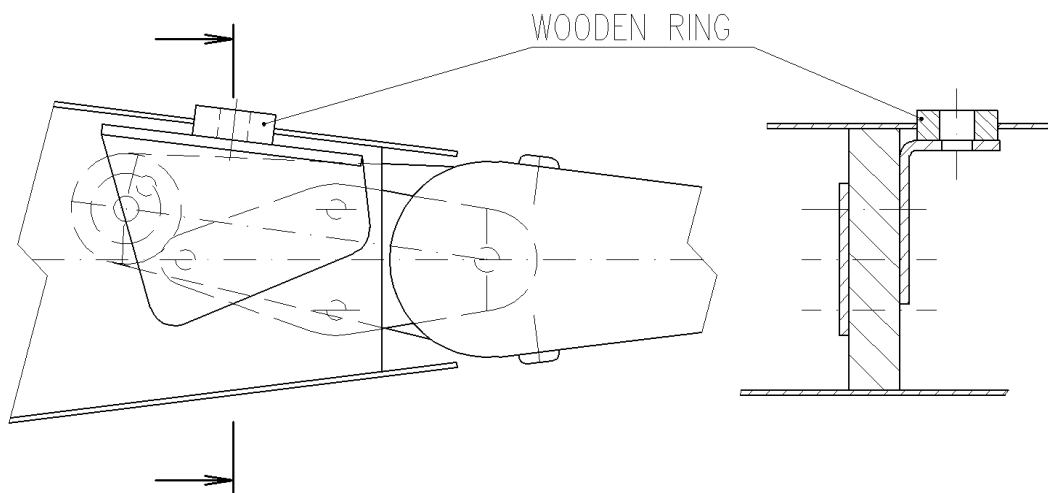
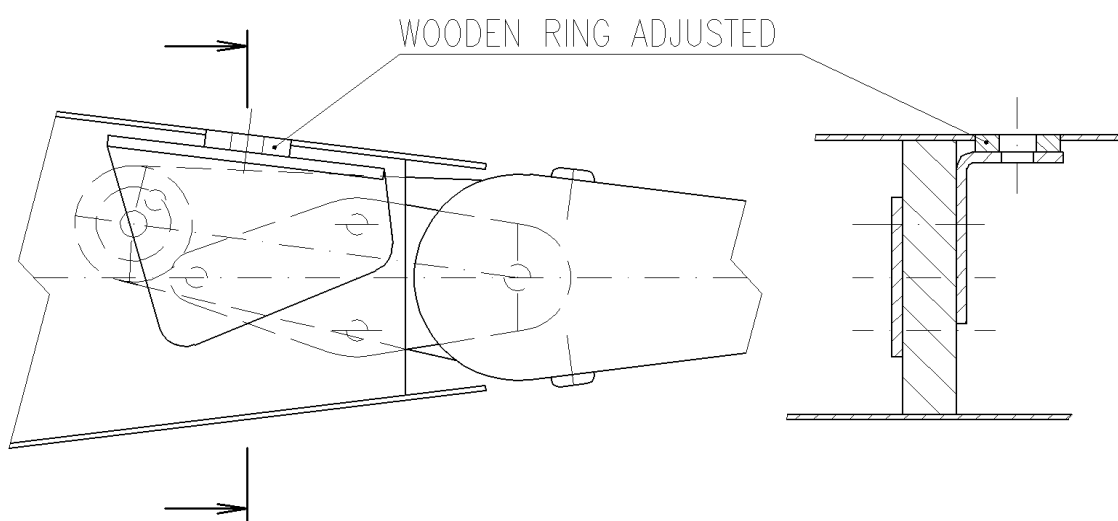

Fig. 2
Fig. 3
3. Put the wooden ring th. 6 mm into the hole d 16 for the PA spacer, and grind off the overlapping material. See fig. 2 and fig. 3.